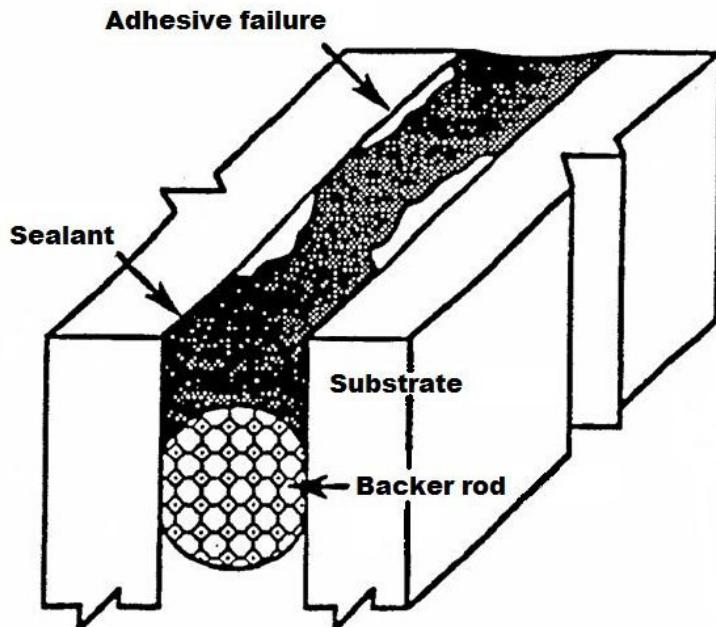

figure 1
**Adhesion Failure** – Adhesive failure occurs when a sealant pulls away from the surface or substrate to which it was bonded (see Figure 1). Possible causes of adhesive failure would include joint movement that exceeded the sealant's capability, improper surface preparation, or improper bead configuration.